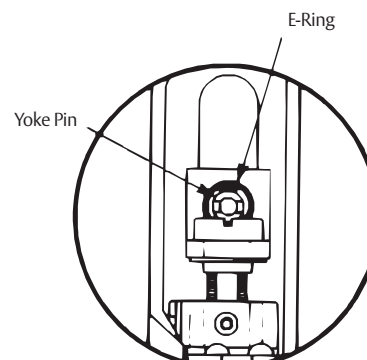

Figure 16
5. Fasten device latch head using two (2) 1/4-20 PRHMS or 3/8" (10) dia. SNB. (Figure 16) Remove temporary screws.